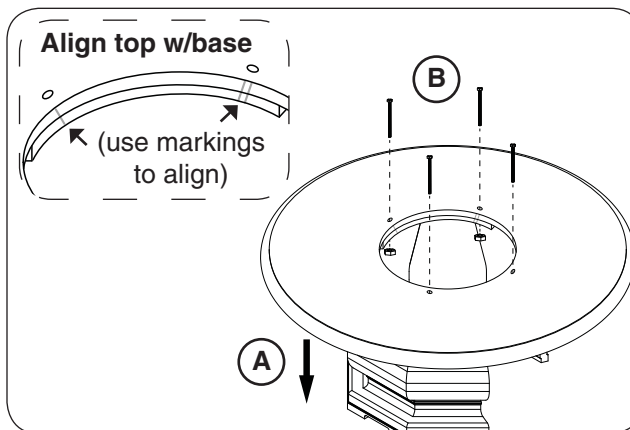

Fig. 17-3 Three-piece models: place top & fasten
3. **CAREFULLY** place the top on the unit, ensuring that the markings along its inner ring align with those found on the base (see Fig. 17-3).
4. Use a 1/2" wrench and the 4 supplied bolts and nuts to fasten the top to the base as shown in Fig. 17-3.